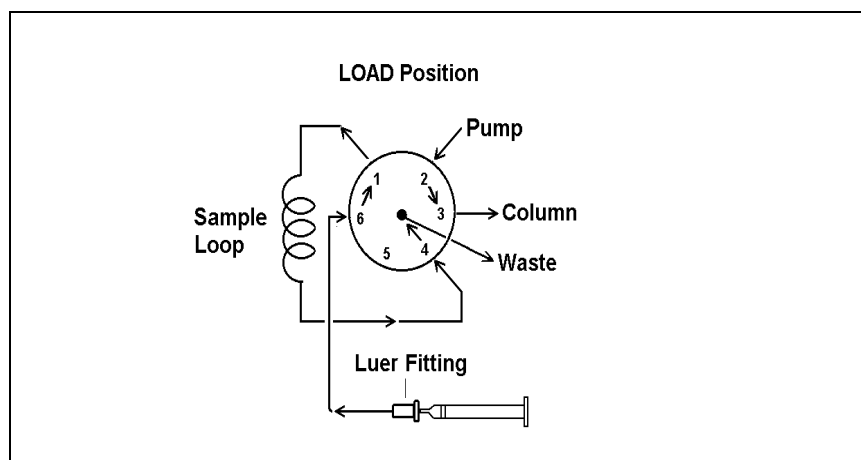

Figure 3-8. Loading Sample
3. **Loading sample through the waste line:** To avoid the possible outgassing effects of using suction to draw the sample through the waste line, connect a luer fitting and sample-filled syringe in the end of the waste line. Connect the other end of the waste line into injection valve port #6. Place the valve in its **LOAD** position. Insert the needle adaptor shipped with the Rheodyne valve into the needle port. Push sample through the waste line. Waste will exit the valve through the needle adaptor. No sample to be analyzed will come into contact with the metal needle of the needle adaptor (see Figure 3-8).